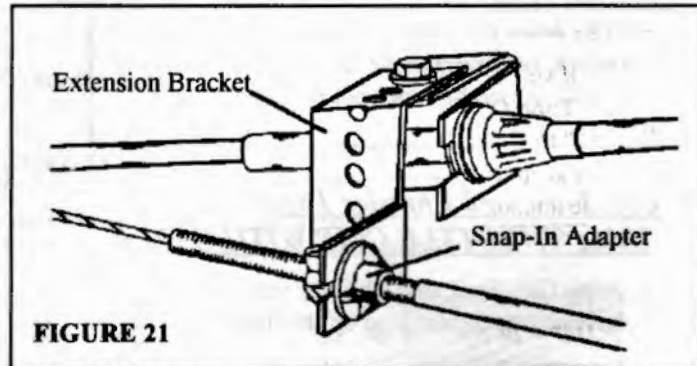
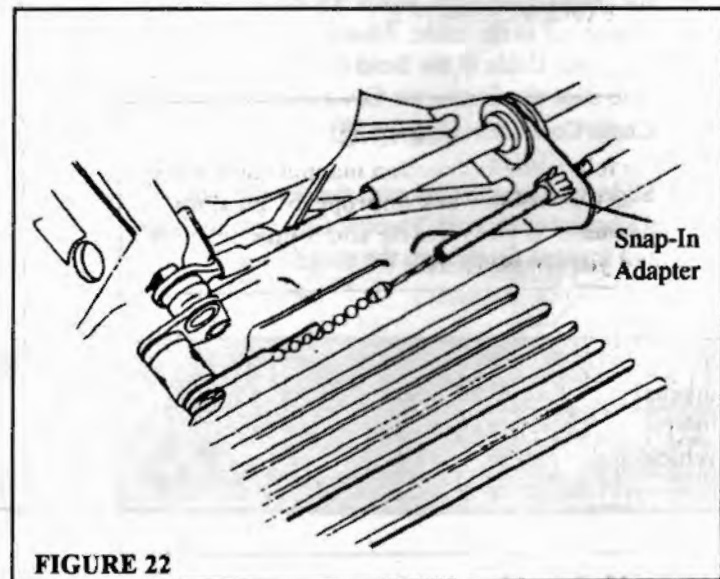

FIGURE 21
FIGURE 22
3. The Snap-In Adapter snaps into the square hole of the Extension Bracket (Figure 21) or snaps into an existing square hole on the vehicle -- common on GM vehicles. (Figure 22)